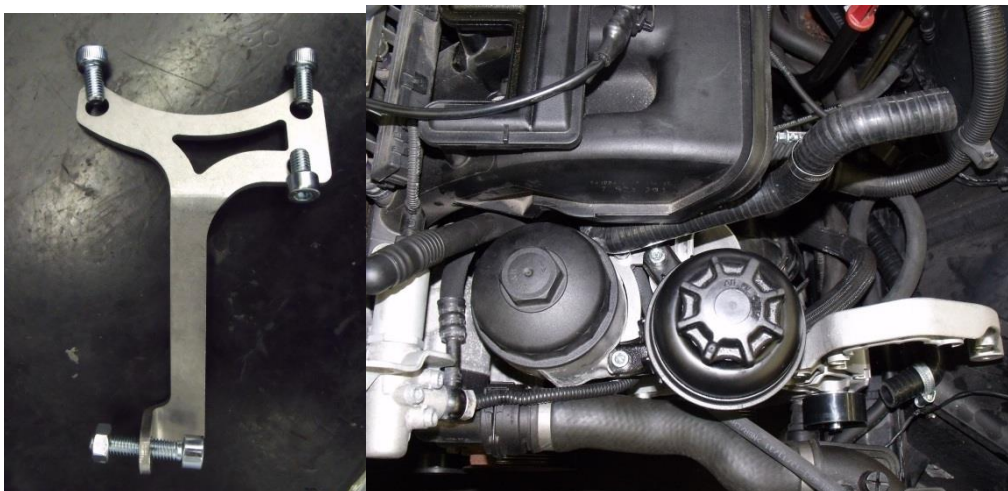

Figure 24
12. Assemble P341-44-16 on the oil filter housing (Figure 24) and the bracket of the P/S reservoir and supporting the base plate. If necessary, rotate the container so that the hoses are exposed on the reservoir. Make sure the hoses do not chafe or get crushed. First attract on the base plate and then on the oil filter case, only than the optimal position is guaranteed.